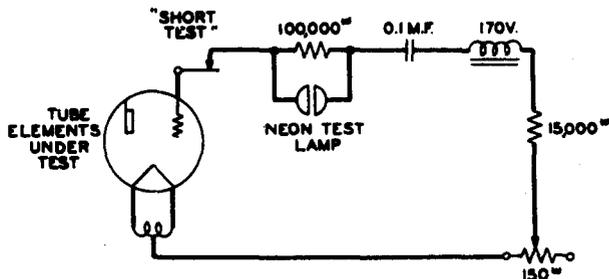

Fig. 1 - Short Test Circuit
2.13 Short Test Switch - On a six-position selector switch, designated SHORT, five steps are provided to make short-circuit tests between various electrodes of the tube under test, using the neon lamp test circuit, as indicated in Fig. 1. This short test may be made with the tube filament (or heater) on or off,